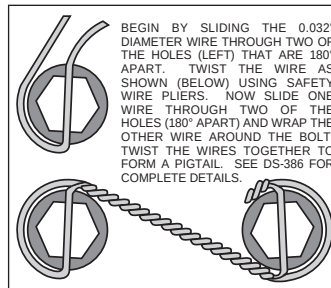

Figure 5. Safety Wire Diagram
•Once the caliper positions have been determined, remove both the service (17) and EPB (23) calipers, leaving both brackets in place on the backing plate. For the EPB bracket, remove the bolts one at a time, apply red Loctite® 271 to the threads, and torque to 35 ft-lb. The service caliper bracket will be final installed after shimming is determined.
•Orient the rotor (13) and the hat (14) as shown in Figure 1 and Photo 8. Attach rotor to hat using bolts (15) and washers (16). Using an alternating sequence, apply red Loctite® 271 to the threads, and torque to 155 in-lbs. For an added measure of security, the bolts may be safety wired using standard 0.032 inch diameter stainless steel safety wire as shown in Figure 5. Please refer to Wilwood's data sheet DS-386 (available at www.wilwood.com/Pdf/DataSheets/ds386.pdf) for complete safety wire installation instructions.